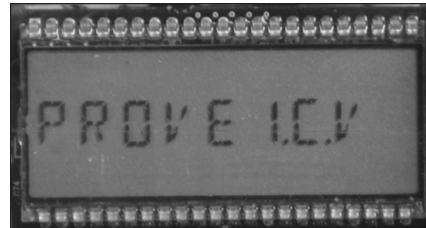

Figure 4 - LCD screen displays **PROVE I.C.V**
- B. After five seconds, the display will change to **PROVE I.C.V** (Figure 4).